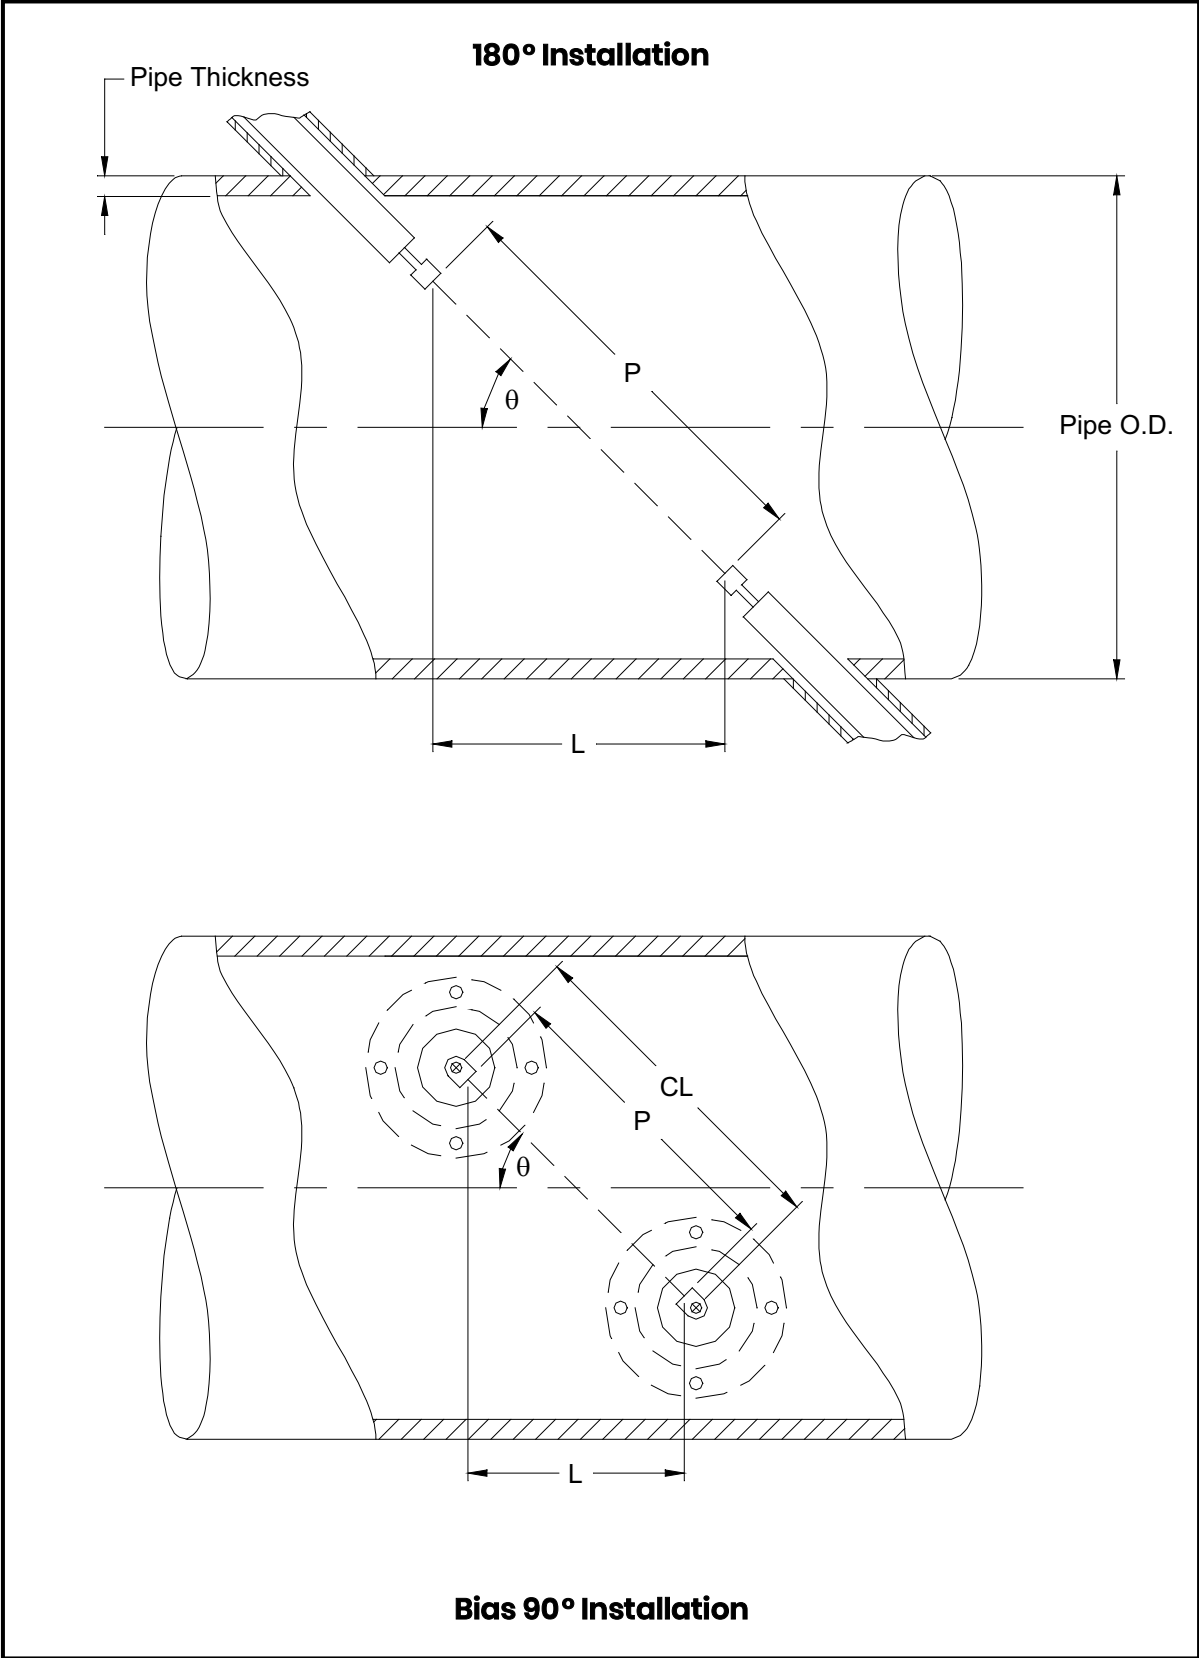

Figure 18: Top View of Transducer Installations
The accuracy of the programmed P and L values is critical to precise flow rate measurements. If the factory supplies the flowcell for the system, the correct values will be included in the documentation supplied with the unit. For transducers installed on an existing pipe (see Figure 18 on page 56), P and L must be measured at the site. This appendix provides instructions for properly determining these dimensions.
Whenever possible, physically measure the face-to-face distance (P) and the axial distance (L) between the centers of the flat faces of the transducers. Refer to Figure 18 on page 56 for an illustration of the proper distances to measure in a typical installation.
With a Bias  $90^\circ$  transducer installation, it sometimes happens that the only known parameters are the transducer angle ( $\theta$ ) and the centerline distance between the transducer bodies (CL). In these cases, it is still possible to calculate P and L by combining Equation D-1 above with the additional Equation D-2 below (see Figure 18 on page 56):